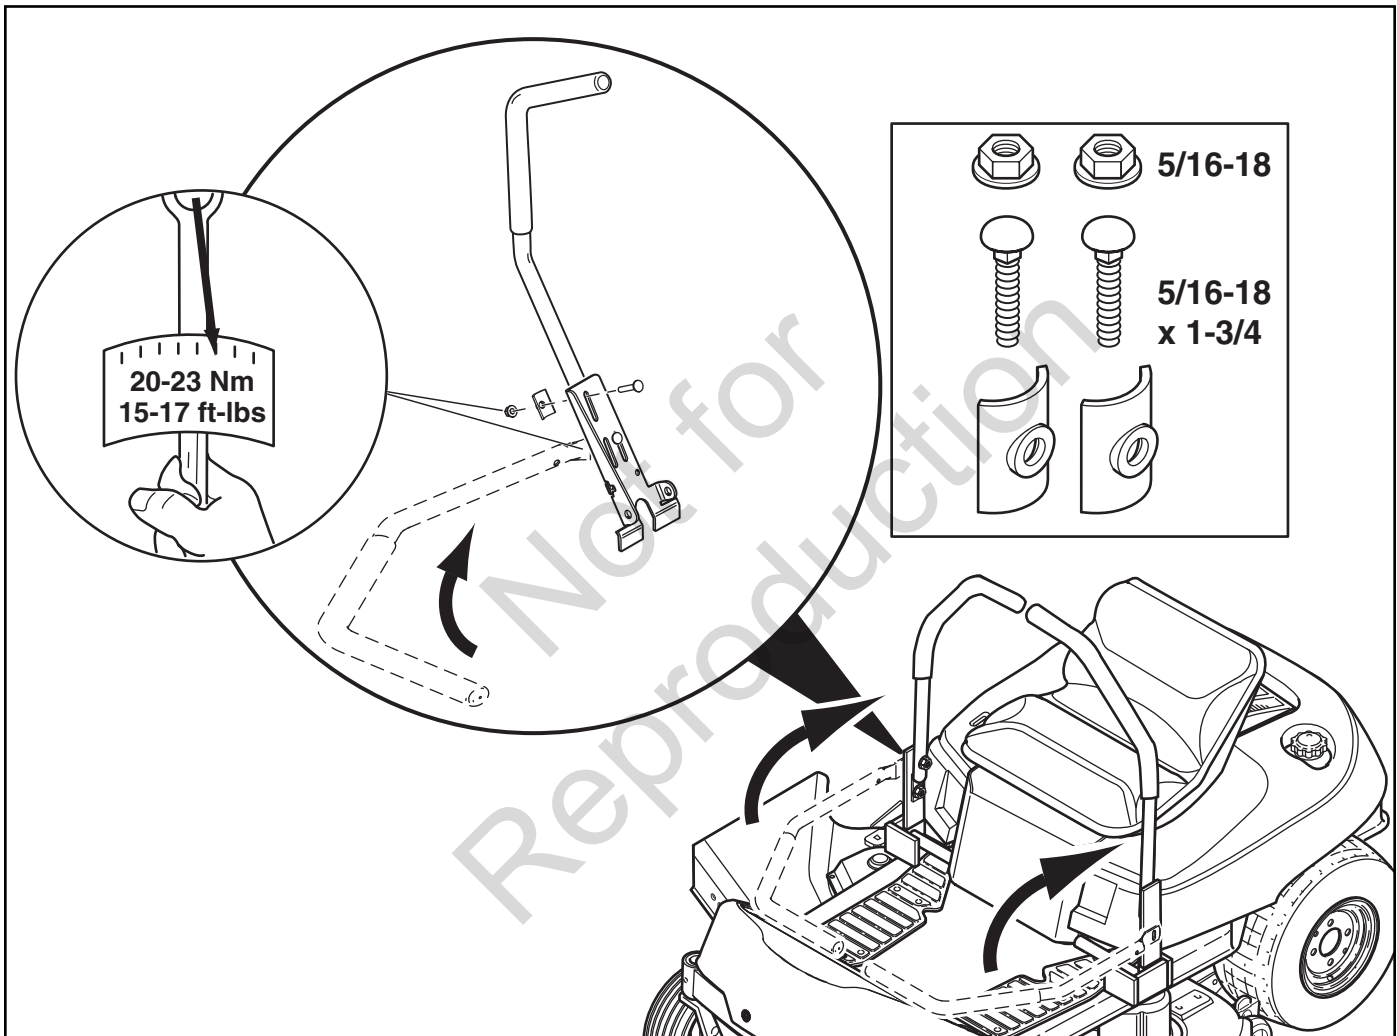

Figure 3. Setting Up the Ground Speed Control Levers
1. Loosen (do not remove) the hardware securing the ground speed control levers to the lever bases (see Figure 3).
3. Install the hardware as shown in Figure 3. Tighten to 15-17 ft-lbs (20-23 Nm).